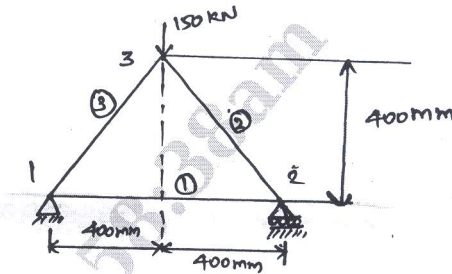

Fig Q4(a)
- 4 a. Consider the three bar truss shown in Fig Q4(a). Determine the nodal displacement and stress in each member. Find the support reactions. Take  $E = 2 \times 10^5 \text{ MPa}$ .